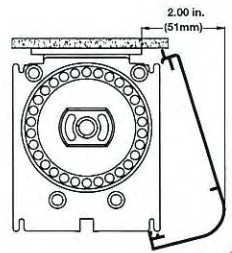

Figure 1a
1. Insert the top hook of the fascia into the space between the ceiling and the bracket as shown. (See Figures 1a, 2a, 3a, and 4a.)